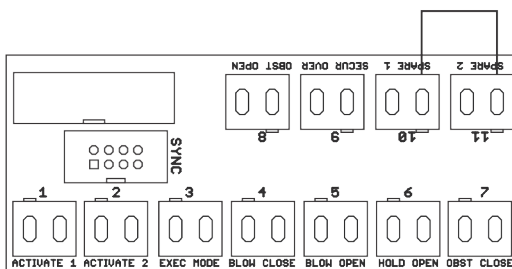

Fig. 23
2. Change Input 10 value to Closing Obstruct using control board joystick and LCD screen (Fig. 23) or refer to page 9, WiFi Method.
3. Change Input 11 to Opening Obstruct using control board joystick and LCD screen (Fig. 23) or refer to page 9, WiFi Method.
5. Jumper Input 10/Spare 1 and Input 11/Spare 2. (Fig. 23)
6. Plug in 585 Sensor 10 pin connector to 6300 control board. (Fig. 23)
7. Wire 24VDC from 6300 control board to Pin 1 and Pin 2 on 585 Sensor. (Fig. 23)